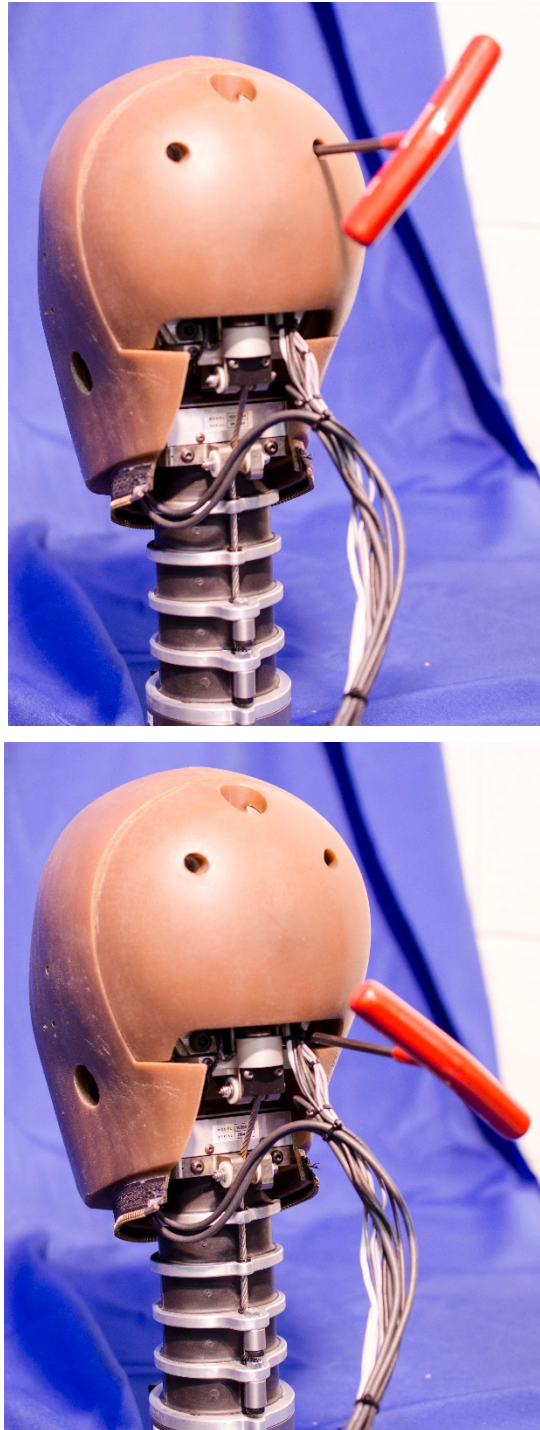

Figure 3-24. Install the skull cap
- 3.2.2.18 Position the Head Cap Skin (472-1310) onto the Head Cap (472-1110). Slide the head cap assembly on the rear of the skull while carefully routing the wire bundles out through the bottom sides of the cap (Figure 3-24). Take caution not to pinch any of the instrumentation wiring between the skull cap assembly and the skull during installation. Secure the cap into place using four M6 x 1 x 16 SHCS.